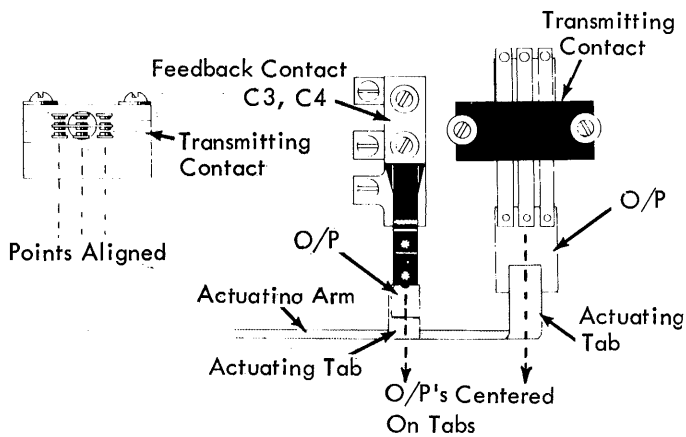

FIGURE 83. Contact Positioning
2. Contact Positioning (Fig. 83) - Position the feedback and transmitting assemblies under their mounting screws for the following conditions: